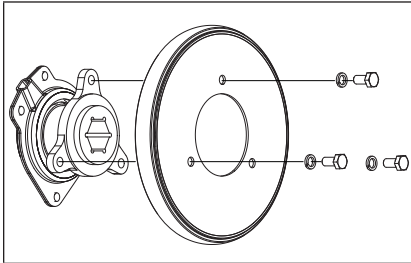

Figure 70
7. Unscrew the three M6 bolts along with 3 locking washers from the friction disc. Discard the worn friction disc and replace with a new one. Do not overtighten. (Fig. 70)